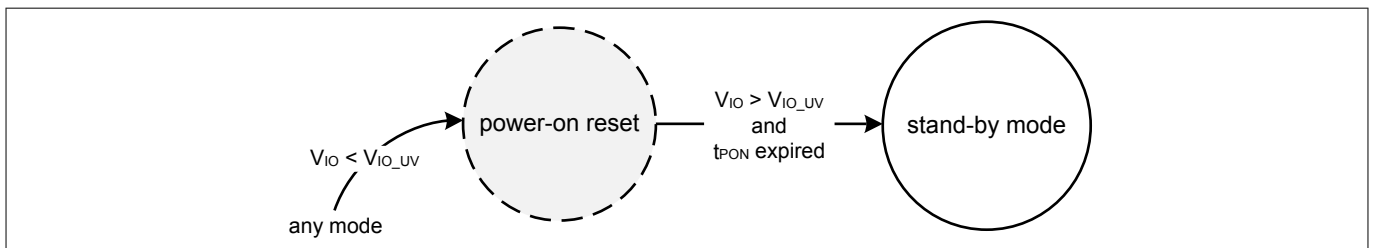

Figure 6 Power-up and power-down
- V_{IO} is below the V_{IO_UV} threshold (see Figure 6).